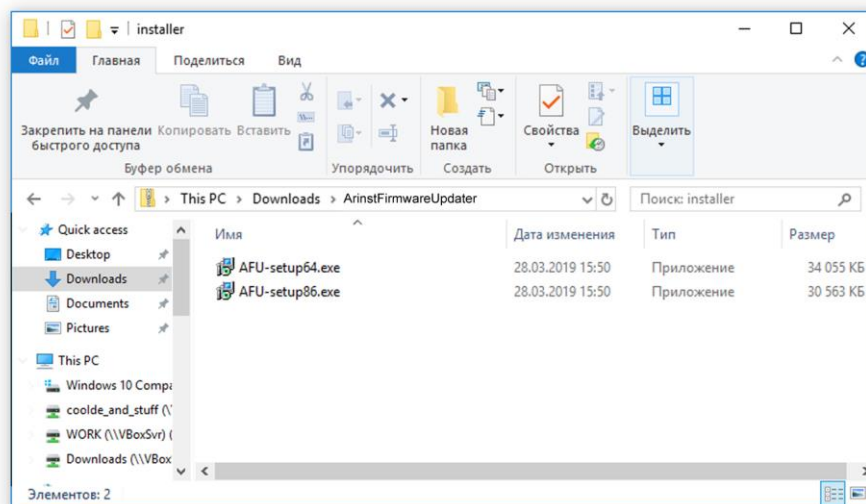

Figure A1.3 - The unzipped downloaded file
In our example in Figure A1.3, the archive file *ArinstFirmwareUpdater* is saved to the **Downloads** folder.
1.3. Enter the directory into which the archive file was uploaded and unzip it with the help of archiver (Figure A1.3).